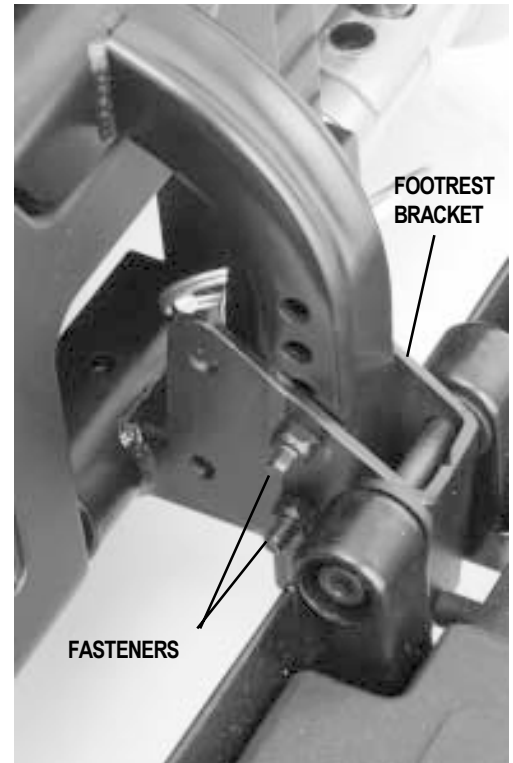

Figure 20. Footrest Height and Depth Adjustment
1. Remove the fasteners from footrest bracket. See figure 20.
1. Remove the fasteners from the footrest bracket. See figure 20.